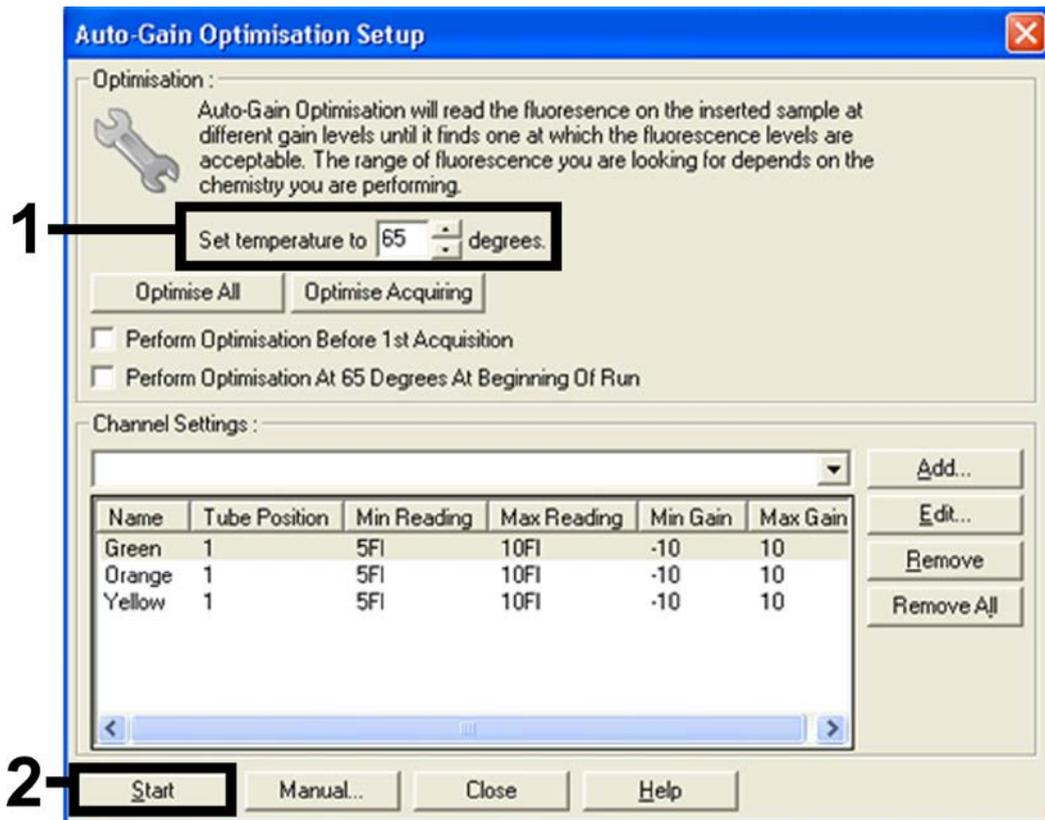

Figure 8. Adjusting the fluorescence channel sensitivity.
Adjusting the fluorescence channel sensitivity	Figure 8
9. The detection range of the fluorescence channels has to be determined according to the fluorescence intensities in the PCR tubes. Click "Gain Optimisation" in the "New Run Wizard" dialog box (see , Step 2) to open the "Auto-Gain Optimisation Setup" dialog box (Figure 8). Set the calibration temperature to 65 to match the annealing temperature of the amplification program (Figure 7, Step 4b). Make sure that all three channels (Green, Orange, and Yellow) are selected for "Auto-Gain Optimisation". (Find channels in the drop down menu under "Channel Settings" and click "Add".) Click "Start" to begin the gain optimization. Click "Close" of the "Auto-Gain Optimisation Setup" dialog box when the gain calibration is completed.